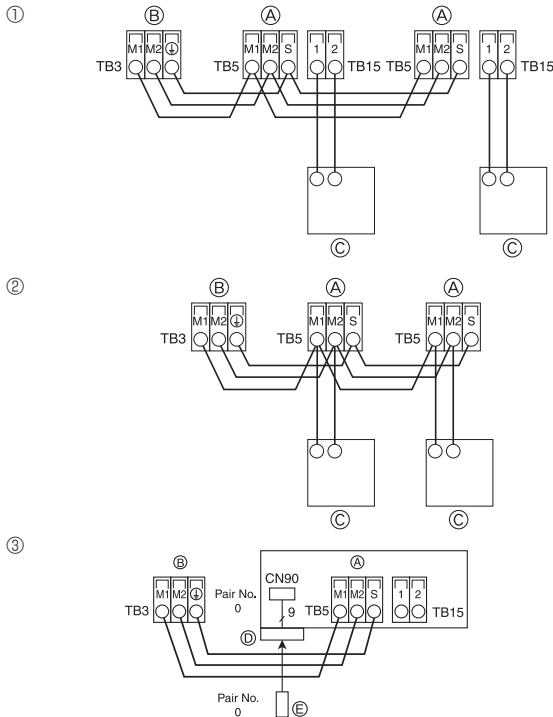

Fig. 4-8
4.4. Connecting remote controller, indoor and outdoor transmission cables (Fig. 4-8)
① MA Remote controller
② M-NET Remote controller
③ Wireless remote controller (When installing wireless signal receiver)